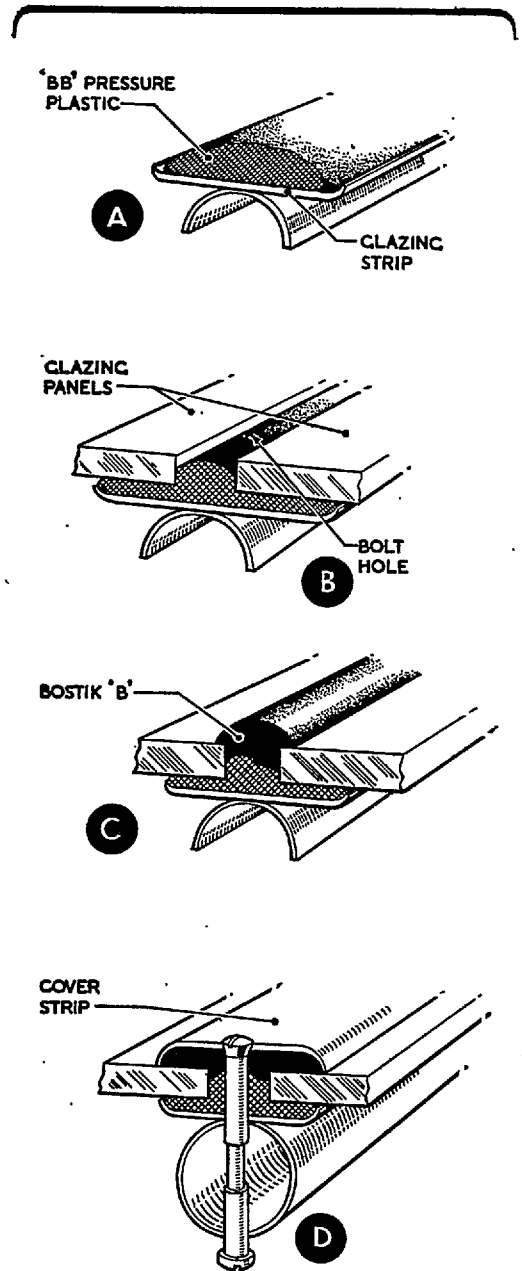

Fig. 4.—Mounting glazing panels on glazing strip
22. The method of mounting glazing panels on glazing strip is illustrated in fig. 4. A strip of plastic, prepared as described in para. 14, should be laid along the glazing strip, as at A, and pressed down lightly. The panels should be placed in position and bedded down into the plastic as shown at B. This causes the plastic to be forced up between the panels and it should if necessary be trimmed away with a sharp wet knife to about halfway up the edge of the panel. A gouge or drill should be passed through the bolt-holes to clear away the plastic so that the bolts can be inserted easily.